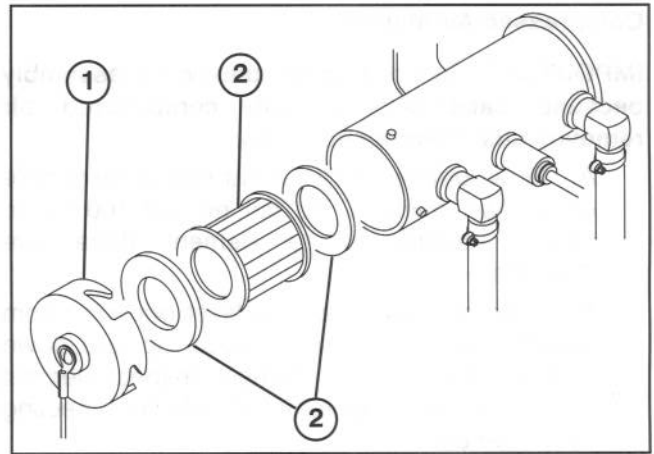

Figure 38
4. Place a drain pan under fuel pump and remove cover from fuel pump (Fig. 38). Take care not to damage wire while removing cover.
5. Pull filter out of pump body (Fig. 38).
8. Clean cover of any residue (Fig. 38), insert filter into body and install cover.